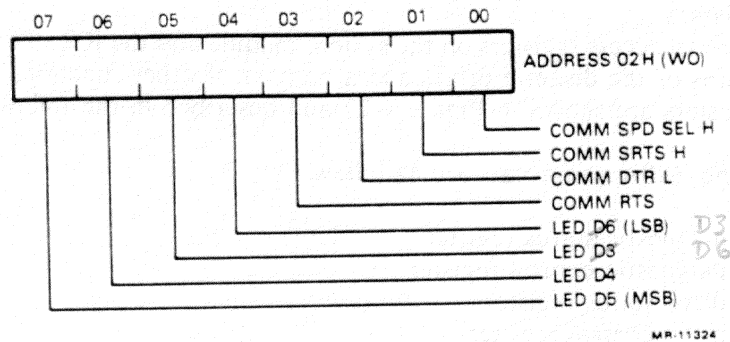

Figure 4-31 Communications Control Register (8088) Format
4.4.9.4 Communications Control Register: 8088 Processor – The communications control register is an 8-bit write-only register that controls the modem lines on the communications port and writes diagnostic error codes into the four 8088 LEDs. This register is accessed by performing a write to address 02H. The register bit format is shown in Figure 4-31 and the bits are described in Table 4-17.